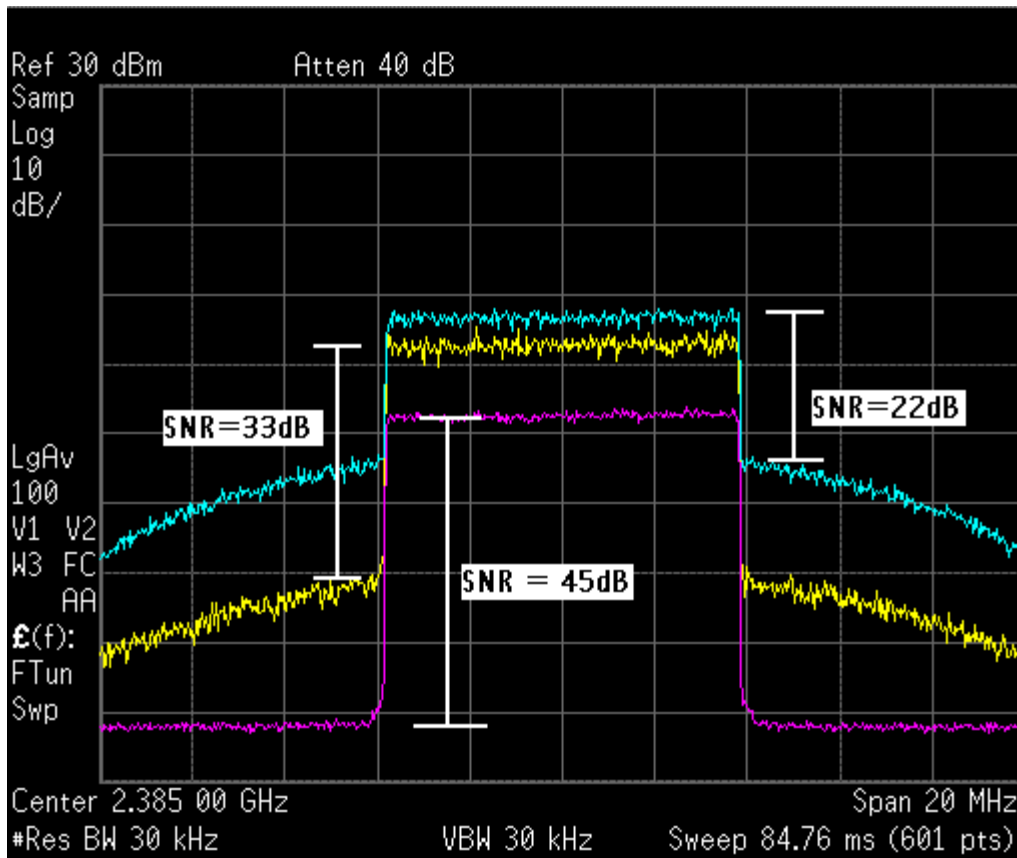

Figure 1: OFDM Signal-to-Noise Ratio (SNR) decreases and IMD increases as Peak Power output is compressed
These higher PAR levels translate to higher power being needed in an amplifier. That can be seen as inefficiency, as the heavy lifting is being done at lower power levels, or as a reasonable cost of increasing the density of the data. Crest Factor reduction (CFR) schemes that pre-clip the signal can reduce the PAR for some types of modulation, but even so, complex modulated signals will still degrade slowly over a wide power range as the signal peaks are increasingly clipped in the amplifier (see fig. 1). This causes progressively increasing digital errors and also pushes energy into adjacent channels, creating "noise". It is important to remember that PAR for complex-waveform signals can vary with the data payload sent, so try to test your system with a worst-case data set. Pseudo-noise (PN) data produced by a signal generator may not represent your worst-case signal.
Figure 1 shows an OFDM signal degrading in an amplifier as the Peak power approaches and crosses over the P1 compression point. The lowest trace is an uncompressed signal with better than a 45dB signal-to-noise ratio (SNR). The middle Trace 2 shows the input signal 10dB higher than for Trace 1, with signal peaks just touching the P1 point. While the gain across the data channel has increased by 10dB, Intermodulation distortion has created "shoulders" of noise, reducing the SNR to 33dB. Increasing the drive by only 5dB in Trace 3 shows that the power in the adjacent channels has increased by 16dB, and SNR has been reduced to about 22dB. Your specific application will determine what level of SNR is required or can be tolerated.